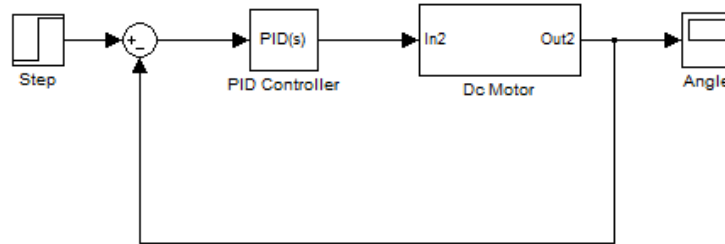

Fig. 16. DC Motor control in Simulink with PID controller
11. Create a Simulink file with PID controller to control the DC motor. Use “subsystem” to model an inbuilt DC motor as in Fig. 16.